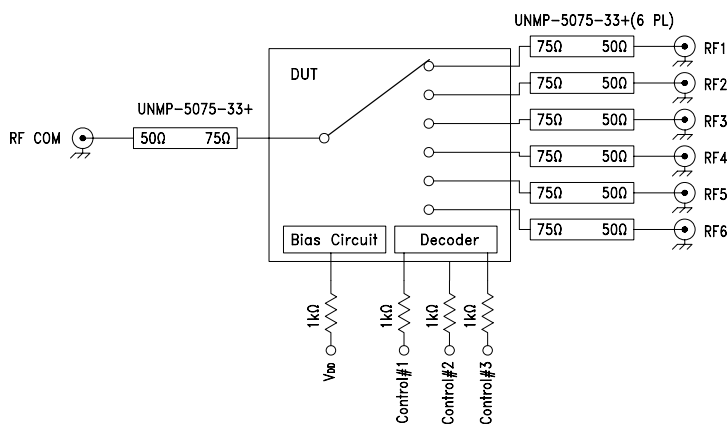

Figure 1: Block Diagram Of Test Circuit Used For Characterization.
- As measured in Mini-Circuit's test board TB-722-N+ (see Characterization Test Circuit, Fig.1).